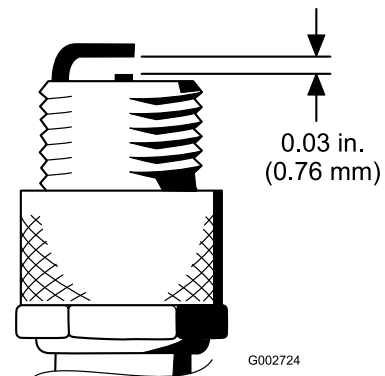

Figure 50
4. Set the air gap between the center and side of the electrodes at 0.76 mm (0.030 inch) (Figure 50).